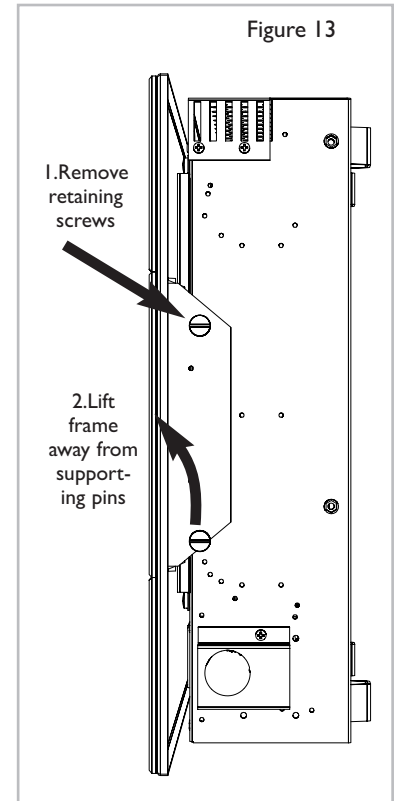

Figure 13
2) Simply lift the frame upwards. Refitting is the reverse of removal. Ensure the cut-outs in the bottom of the frame support brackets engage the lower screws on each side of the appliance. See figure 13.